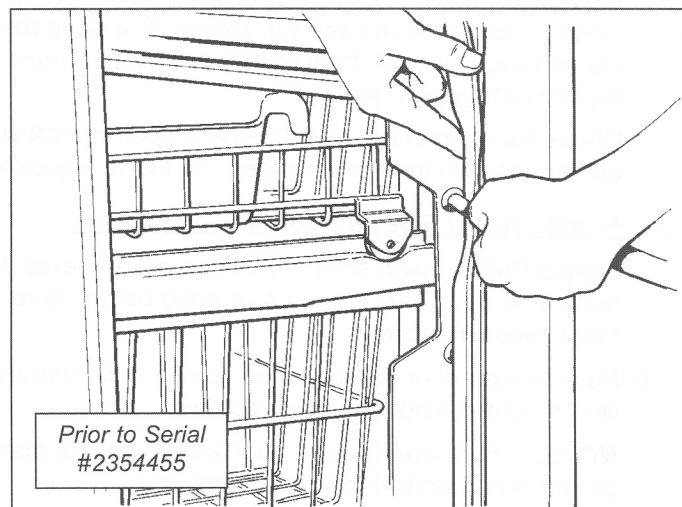

Figure 2-10. Drawer Front Pitch Adjustment
1. Remove two 3/4" white plastic plugs from each side of plastic drawer liner. (See Figure 2-10)
2. With 3/8" socket, loosen bolts, then adjust drawer front pitch accordingly. (See Figure 2-10).